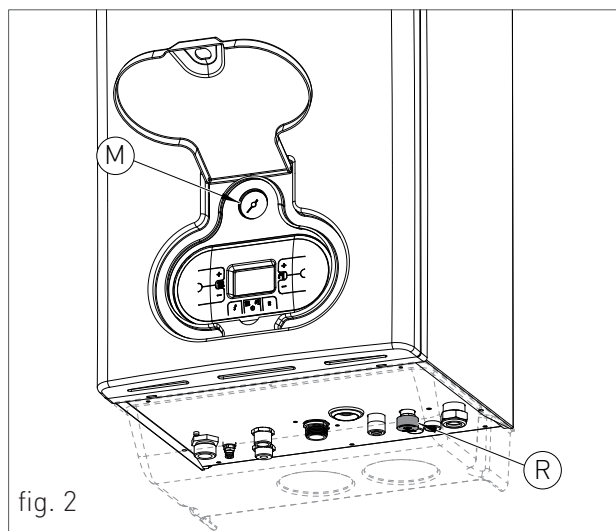
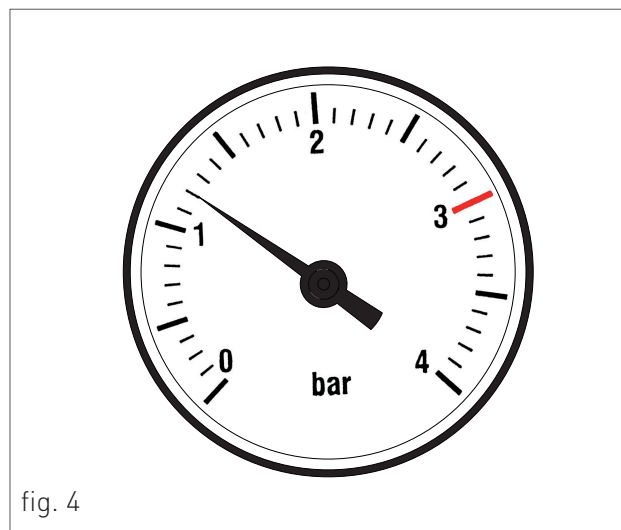

fig. 2
fig. 4
**THIS BOILER HAS BEEN DESIGNED FOR OUTDOOR INSTALLATION IN A PARTIALLY PROTECTED LOCATION (SEE FIG.2 AT CHAPTER 'POSITIONING AND MINIMAL TECHNICAL SPACES').**
It is allowed an outdoor installation in a partially protected location (i.e. shelter, balcony) that respect the minimum measure indicated in figure 2.
4. open the feeding tap "R" (fig. 2);
6. use pressure gauge "M" (fig. 2) to make sure that the system pressure reaches 1.2 bar (fig. 4);
7. after performing this operation, make sure that the loading tap "R" (fig. 2) is properly closed.
10. If after performing these operations you observe a decrease of the water pressure inside the system, open once again the loading tap "R" until the pressure gauge indicates the value of 1.2 bar (fig. 4).